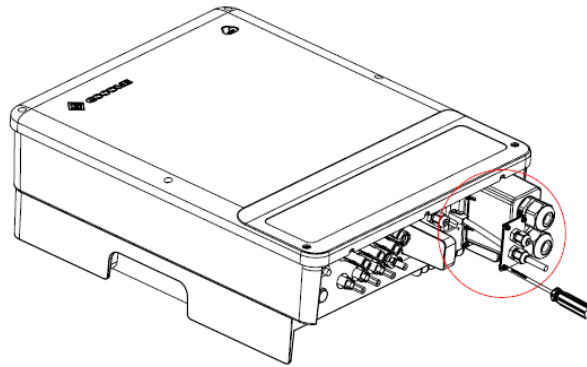

Figure 27 Connection of the Communication Cables on the Inverter Side-Removing Waterproff Baffle
Step 17: Please remove the waterproof baffle of the inverter at first as shown in Figure 27.